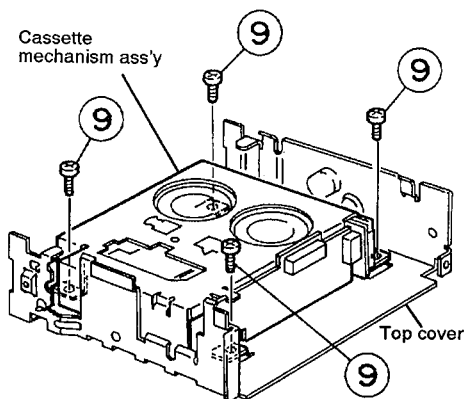

Fig. 4-5
- ◆ **Mechanism assembly** (See Fig. 4-5)